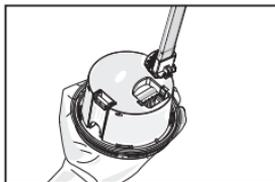

FIGURE 3
2. Insert the connector into the back of the alarm, Figure 3. The connector can only be inserted in one direction. Ensure the connector is connected securely and clicked in position.